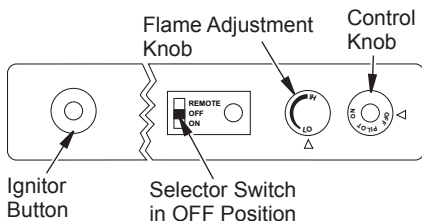

Figure 30 - Control Knob and Ignitor Button Location
4. Press in and turn control knob clockwise  to the OFF position (see Figure 30).
5. Wait five (5) minutes to clear out any gas. Then smell for gas, including near the floor. If you smell gas, STOP! Follow "B" in the safety information, page 20. If you don't smell gas, go to the next step.
6. Press in and turn control knob counterclockwise  to the PILOT position. Press in control knob for five (5) seconds (see Figure 30).